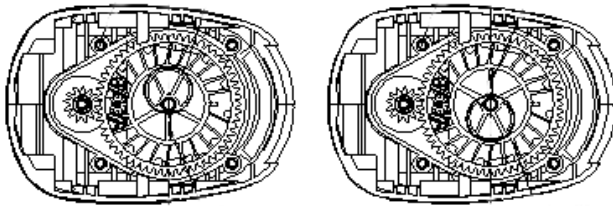
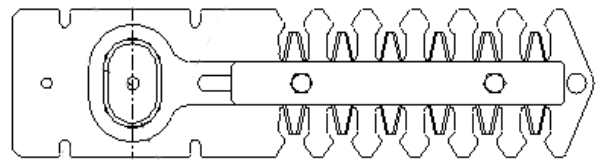

Figure 5
Figure 6
5. Turn the cogwheel so that the marking in the middle points downwards or upwards, see figure 5. Make sure that the plastic ring on the hedge shears is placed around the raised part of the cogwheel, see figure 6.